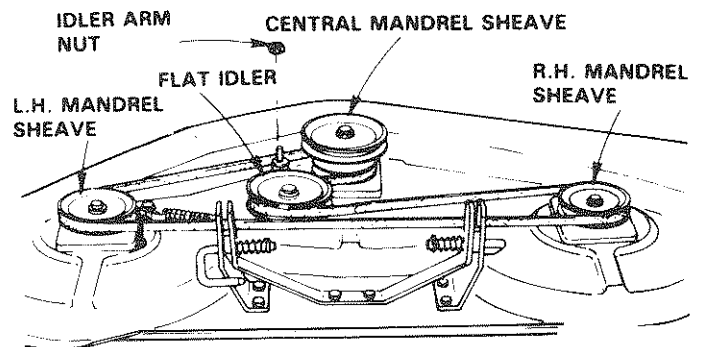

FIGURE 45
- Check deck idler arm assembly and flat idler to see that they rotate freely (Fig. 45).
- Be sure spring is hooked in deck idler arm assembly and on bolt in mower housing (Fig. 45).
- Install new belt in groove of L.H. mandrel sheave and through belt retainer, in lower groove of center mandrel sheave and around flat idler as shown (Fig. 45).
- From a position at discharge end of mower, roll belt into groove of R.H. mandrel sheave (Fig. 45).